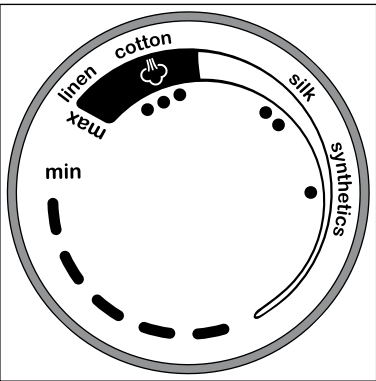

Fig. 2
- 3) Select the appropriate temperature setting using the temperature control 6 (see table below and fig. 2).